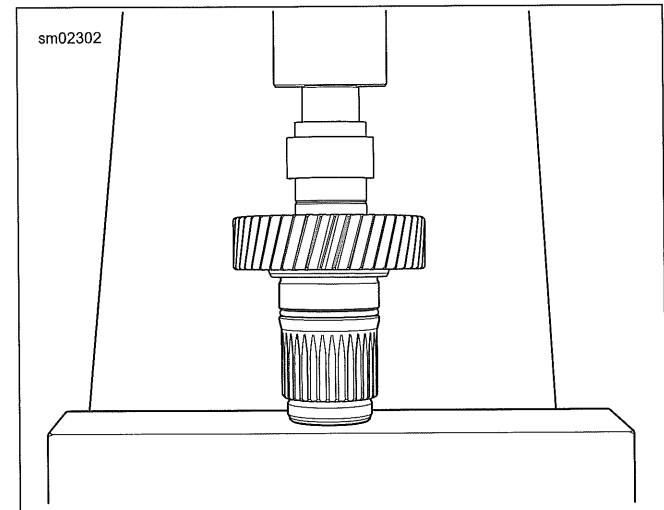

Figure 5-72. Installing Inner Needle Bearing in Main Drive Gear
7. See Figure 5-72. Use MAIN DRIVE GEAR BEARING AND SEAL INSTALLATION TOOL (PART NUMBER: HD-47932) to press inner needle bearing until tool contacts gear.